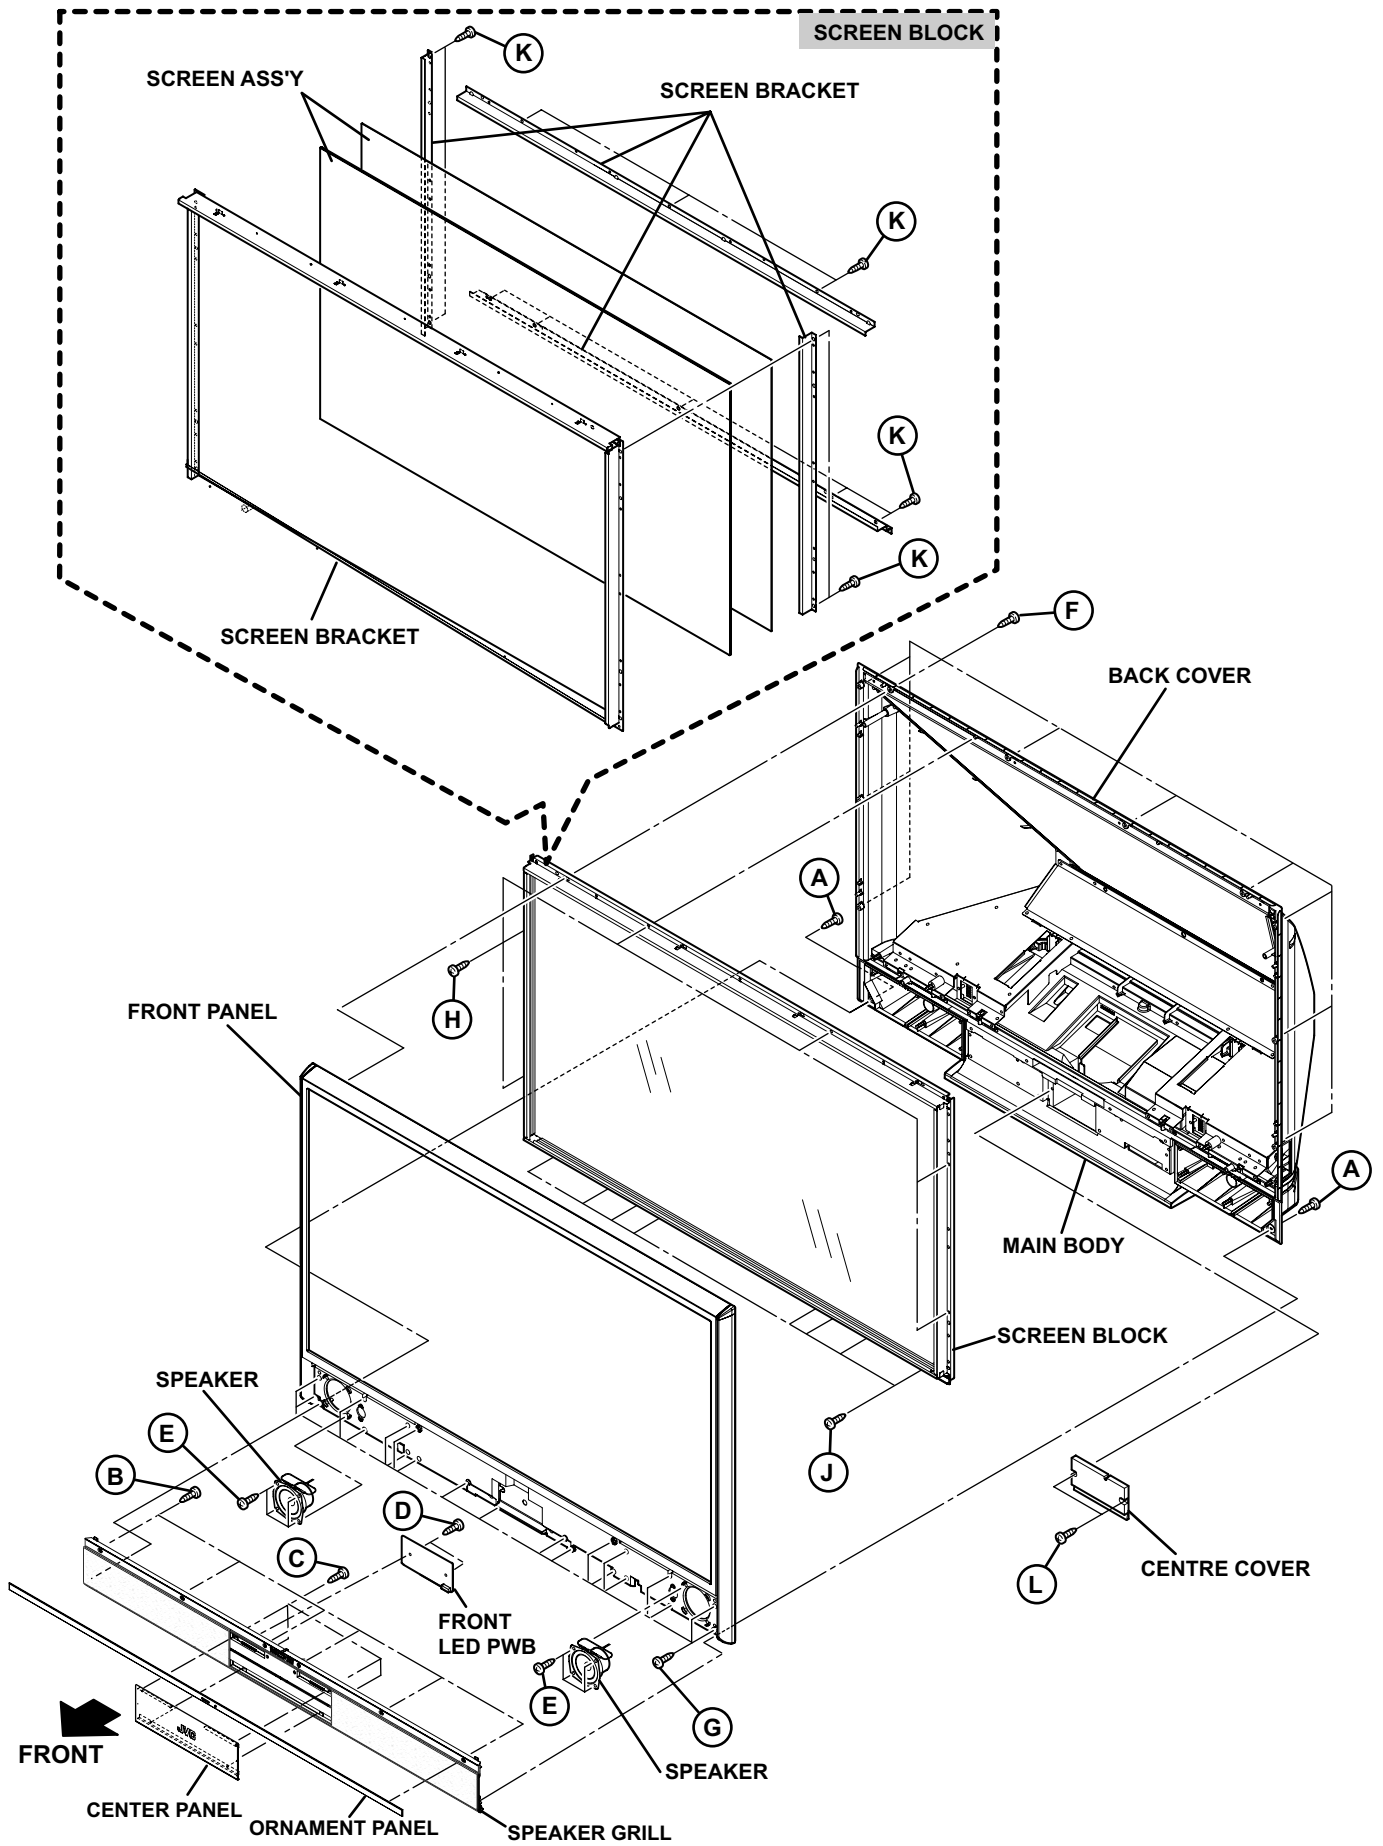

Fig.5
3.1.3.1 REMOVING THE SPEAKER GRILL (Fig.5)
3.1.3.2 REMOVING THE ORNAMENT PANEL (Fig.5)
- (1) Remove the 6 screws [B].
- (2) Remove the ORNAMENT PANEL.
3.1.3.3 REMOVING THE CENTER PANEL (Fig.5)
- (1) Remove the 4 screws [C].
- (2) Remove the CENTER PANEL.
3.1.3.4 REMOVING THE FRONT LED PWB (Fig.5)
3.1.3.5 REMOVING THE SPEAKER (Fig.5)
3.1.3.6 REMOVING THE FRONT PANEL (Fig.5)
3.1.3.7 REMOVING THE SCREEN BLOCK (Fig.5)
3.1.3.8 REMOVING THE SCREEN ASS'Y (Fig.5)
- (1) Remove the 12 screws [K].
- (2) Remove the SCREEN BRACKET and SCREEN ASS'Y.
3.1.3.9 REMOVING THE CENTER COVER (Fig.5)